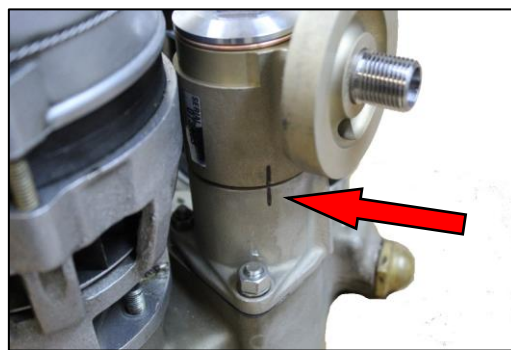

Figure 5
7. Make a match-mark on the sleeve and oil screen housing, see Figure 5. Remove the filter, taking care not to move the adapter sleeve. Check the match-mark. If the marks are not aligned, move the sleeve so that the marks are aligned. If necessary, tighten the spool slightly, just enough to hold the sleeve in place with the match-marks aligned.